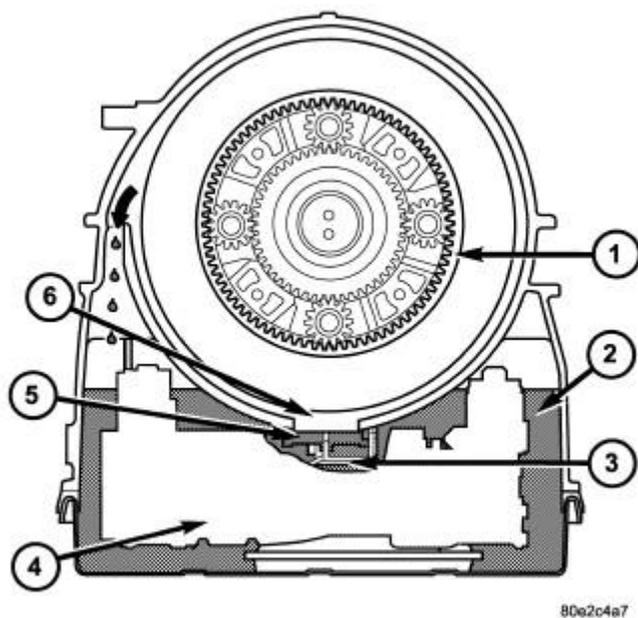

Fig. 159: Fluid Level Control
The oil level control is located on the electrohydraulic unit (4) and consists of the float (5) which is integrated into the electrohydraulic unit. Refer to **Fig. 159**. The float is positioned to plug the opening (6) between the oil gallery (2) and gearset chamber (1) so that the rotating gearsets do not splash about in oil as the oil level rises. The oil level control reduces power loss and prevents oil from being thrown out of the transmission housing at high oil temperatures.